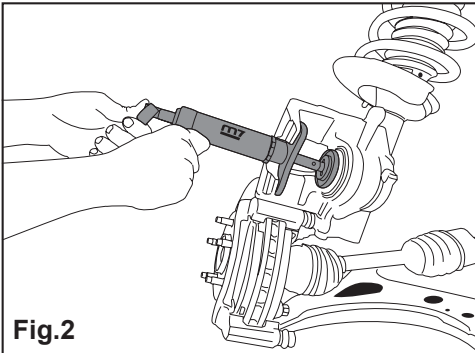

Fig.2
3. Press button **4** and rotating lever **3** to rotate the brake caliper piston. (Fig.2)